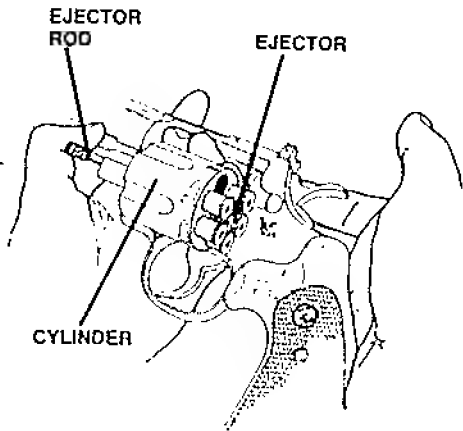

FIGURE 3—EJECTION
3. Push ejector rod backwards forcing out all live rounds or empty cases (See Figure 3). When they are clear of the chambers, remove from revolver. Allow ejector rod to return forward under its spring action.
2. Open the cylinder as previously described (See Figure 3).